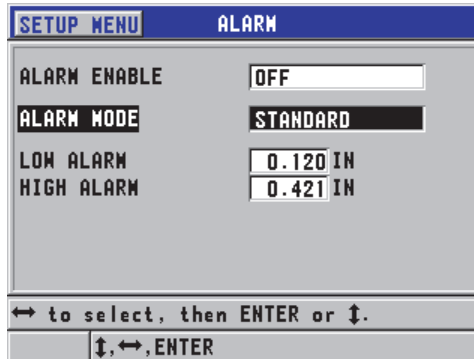

Figure 7-7 Setting up the **STANDARD** alarm
2. In the **ALARM** screen (see Figure 7-7 on page 135):